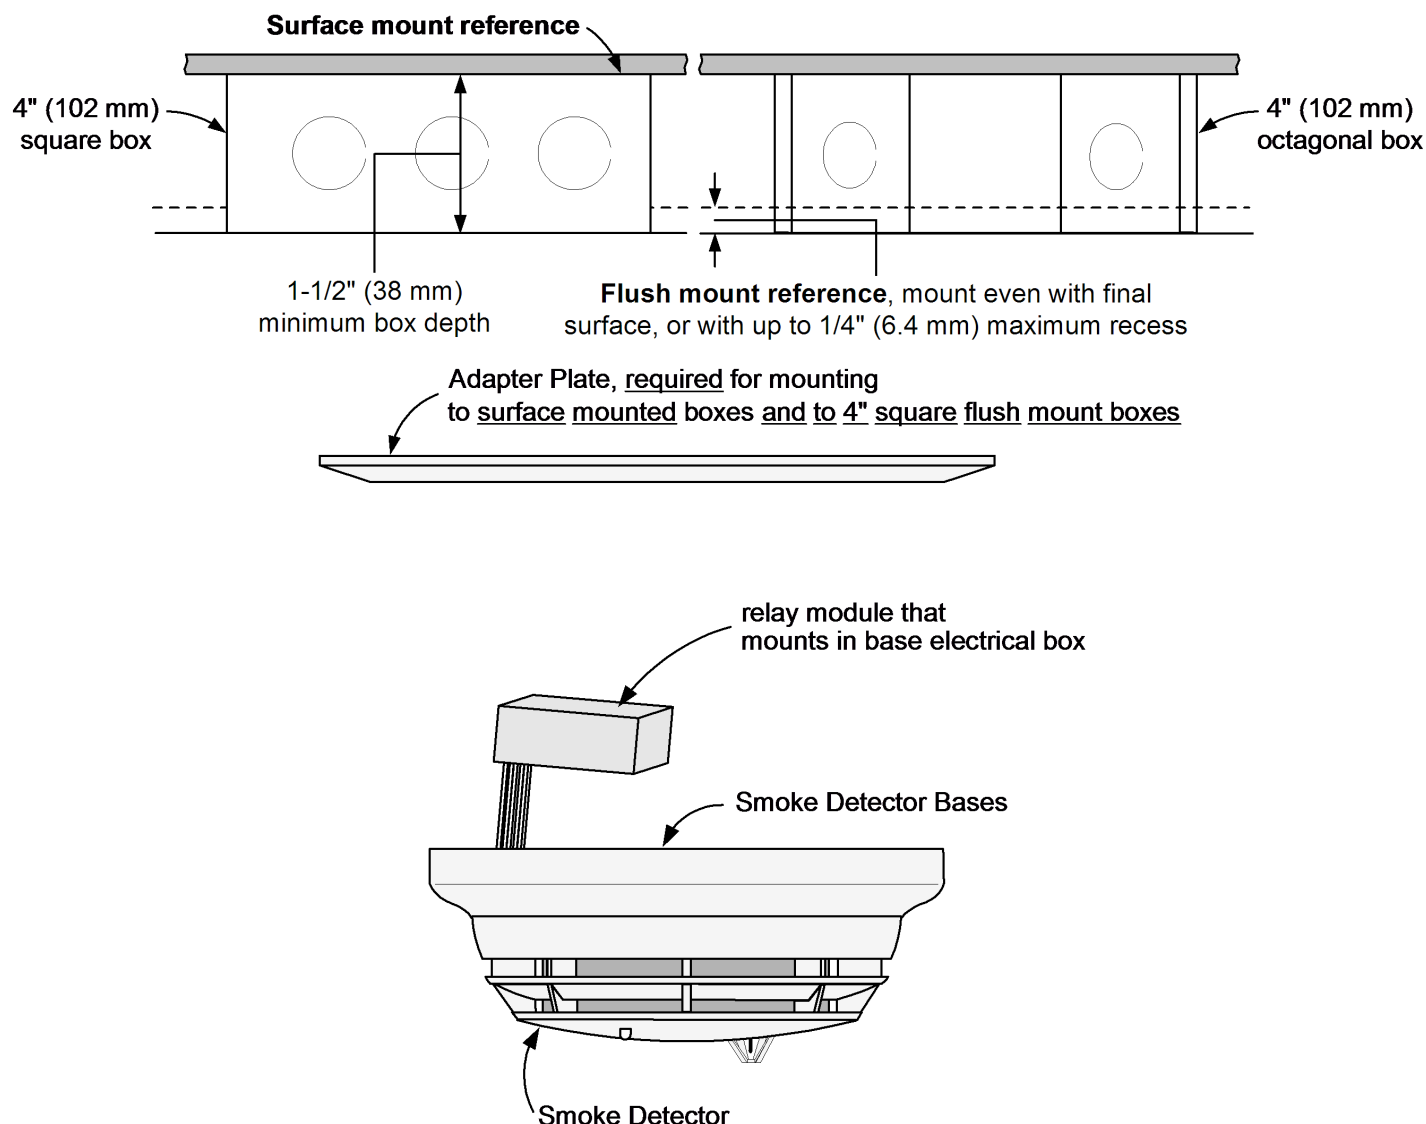

Fig 4: Mounting Information
- Figure 4 shows 4098-9832 adapter plate, required for mounting to surface mounted boxes and to 4" square flush mount boxes.
- Figure 4 shows smoke detector bases A4098-9788, A4098-9682, and A4098-9683.